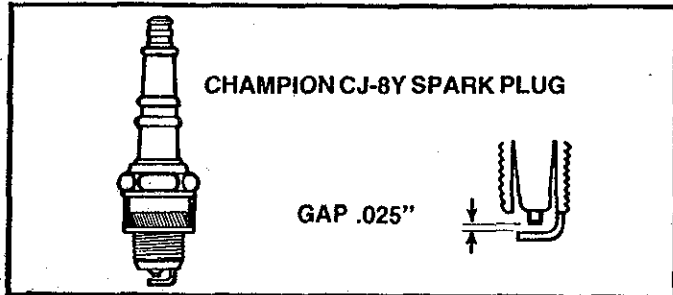

Figure 42
- d. Set the gap between the electrodes to .025" using a wire or flat gauge. Figure 42.